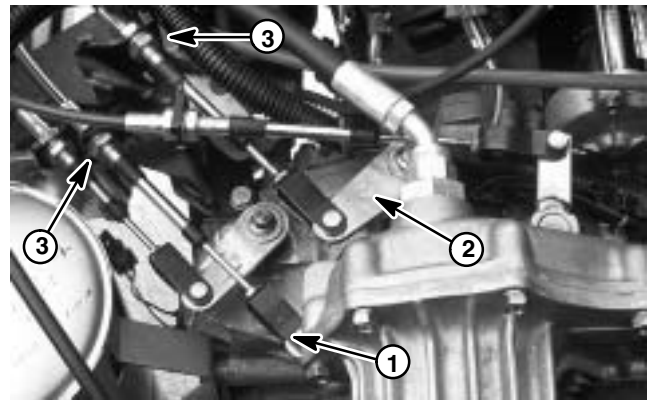

Figure 7
5. Remove shift cable from transaxle shift lever (Fig. 7):
5. Spread jam nuts on bulkhead fitting of cable (Fig. 7). With cable properly routed to transaxle, install cable bulkhead fitting to shift cable mount bracket on transaxle and tighten jam nuts.